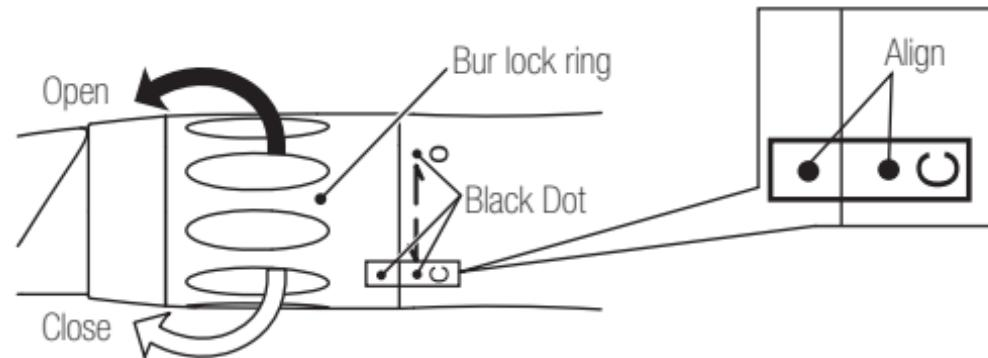

Fig. 1
- 1) Turn the Bur Lock Ring in the direction of mark [O] until it clicks.(Fig. 1)